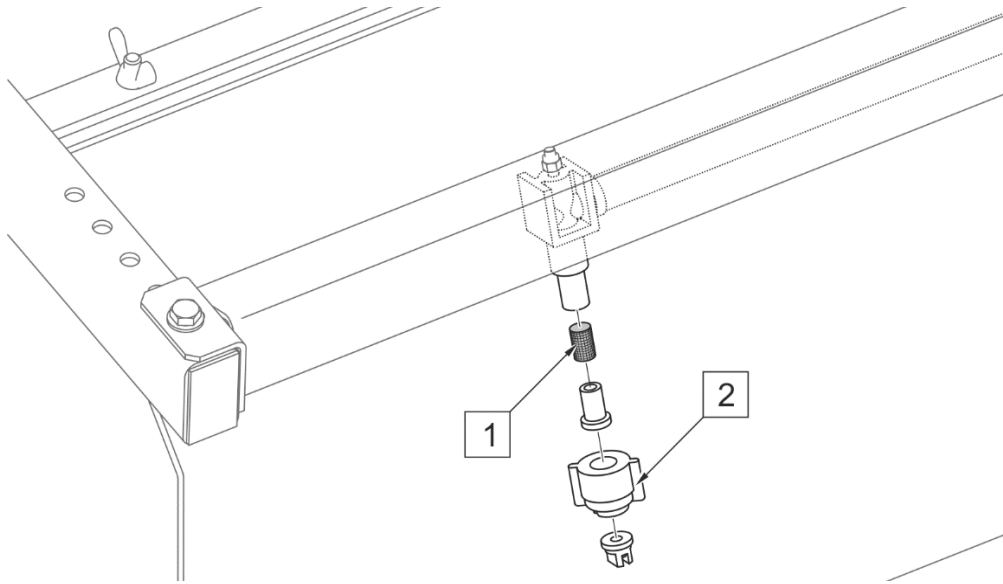

FIG. 5.11 Filters of sprinklers
There is a filter (FIG. 5.11) inside each sprinkler. In order to clean the sprinkler filter (1), undo nut (2) and wash or blow the filter with compressed air. Before installing, make sure the sprinkler nozzle is not clogged. Check technical condition of sprinklers and, if necessary, replace them.